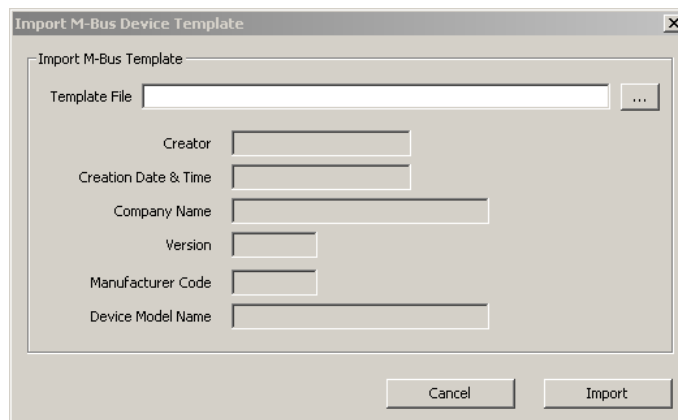

Figure 139: Import M-Bus Device Template dialog.
2. This opens the **Import M-Bus Device Template** dialog shown in Figure 139.